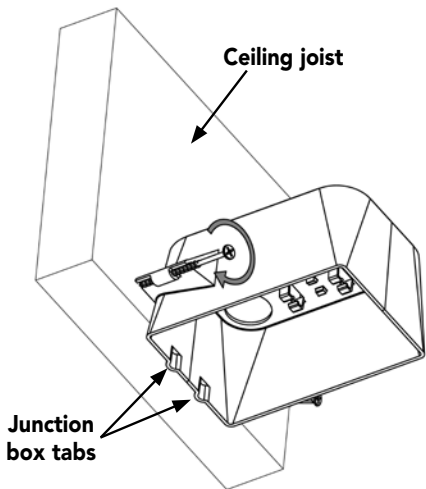

Figure 8
3. Locate the two tabs on the junction box, and line them up against a ceiling joist. The tabs locate the junction box proud of (slightly raised from) the joist. Screw the two screws into the ceiling joist to secure the junction box (**Figure 8**).